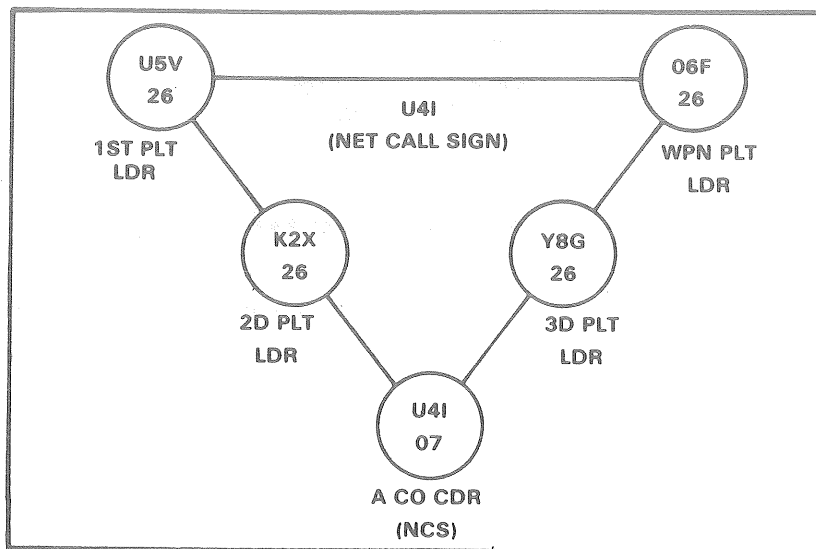

Figure 1. Simple radio net diagram.
- c. Identify the net structure and determine the answering sequence, and make the appropriate response to the individual stations (fig 1).